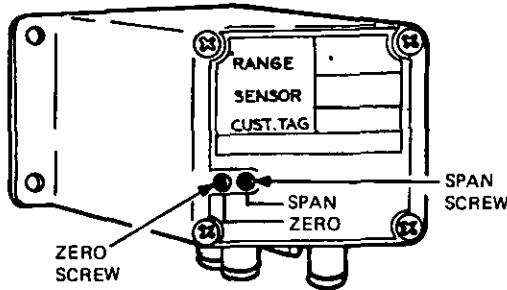

Figure 6
2. Set required minimum input resistance on decade box. If output is not 4 ± 0.016 mA, adjust ZERO screw (Figure 6).
3. Set required maximum input resistance on decade box. If output is not 20 ± 0.016 mA, adjust SPAN screw (Figure 6).
4. Adjust ZERO screw (see Figure 6) so that output reading is 12 ± 0.016 mA.
6. Adjust SPAN screw (see Figure 6) so that output reading is 20 ± 0.016 mA.